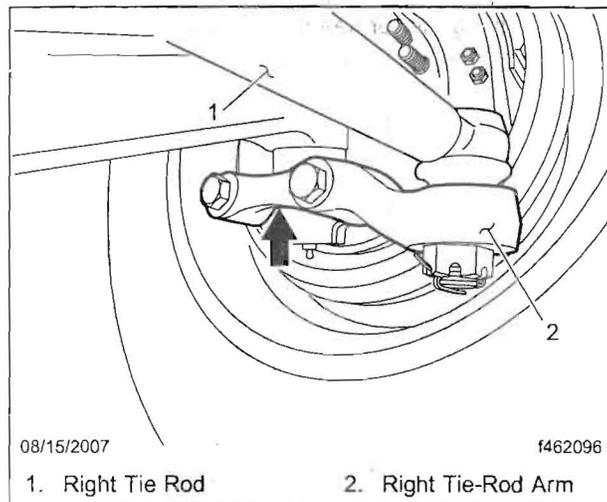

Fig. 2, Part Number Location, Right Tie-Rod Arm
- 5.3 From underneath the right side of the vehicle, check and record the raised part number on the lower surface (facing the ground) of the right tie-rod arm. See **Fig. 2**.